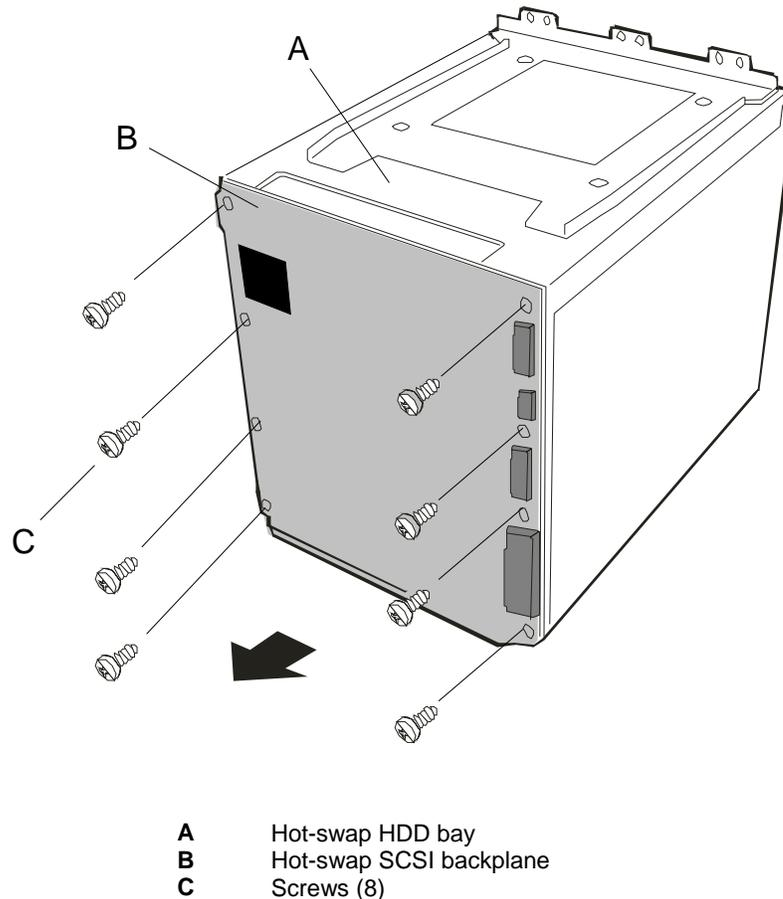

Figure 4-52. Removing the SCSI Backplane Bracket
3. Remove and save the eight screws securing the SCSI backplane to the rear of the hot-swap HDD bay. See Figure 4-52.
5. Carefully position the replacement SCSI backplane on to the rear of the HDD bay and secure it with the eight screws removed in Step 3. See Figure 4-52.